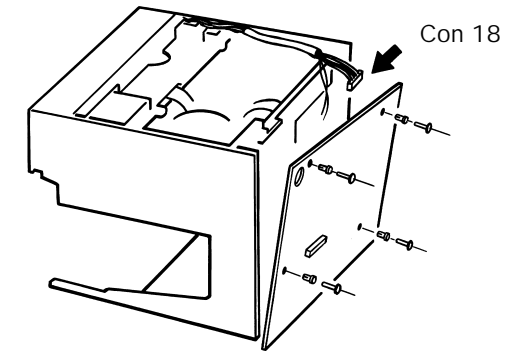

Figure 4 Rear circuit board access
5. As shown in figure 4, remove the four plastic securing rivets from the circuit board at the rear of the recorder. (Note that these are in two parts - take care not to lose any of them!) Release the display loom connector (Con 18).